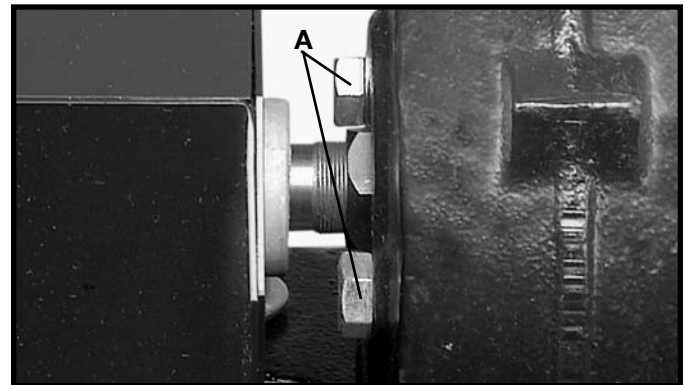

Fig. 18
1. Loosen two bolts (A) Fig. 18, move the sanding arm to the desired position, and tighten the two bolts.